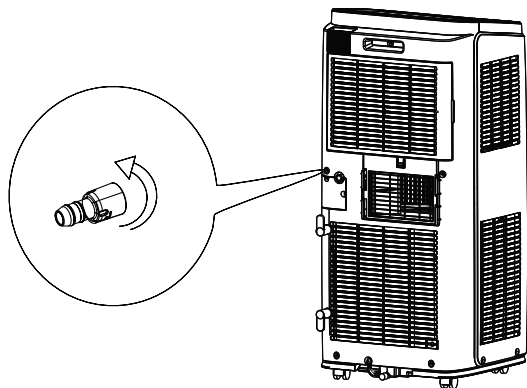

Fig.8
(2) Screw the drain connector to (included in the package) the spout by turning clockwise.(As show in Fig.8)